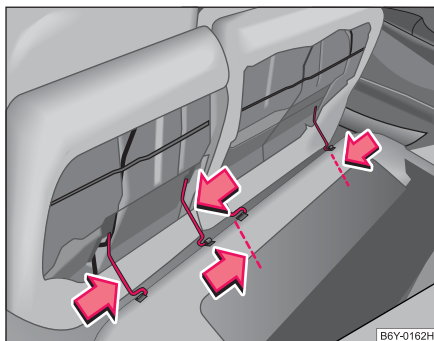

Fig. 51 Remove the rear seats
- Press the wire clamp in the direction of the arrow ⇒ fig. 51 and remove the rear seats from its holder.